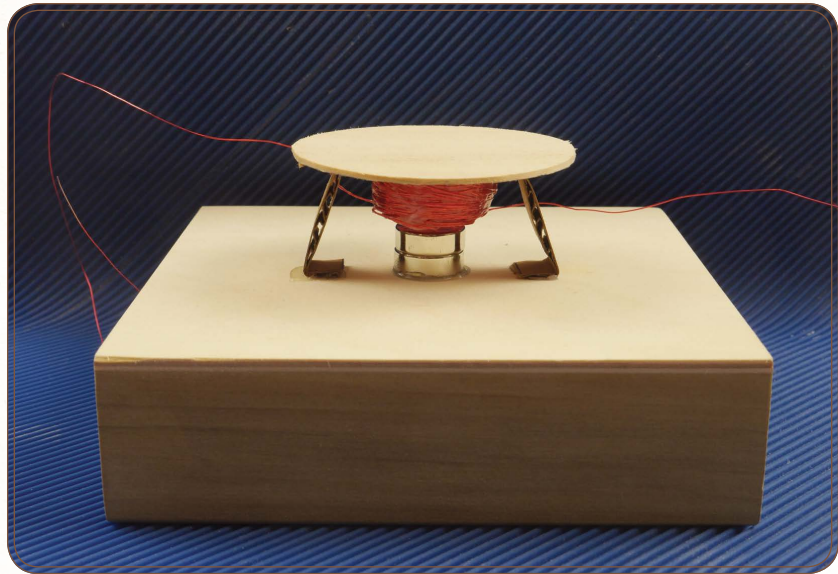

Figure 8.6: Adding the diaphragm to the assembly
7. Glue the diaphragm to the other ends of the Z-shaped strips as shown in the Figure 8.6 on the next page.